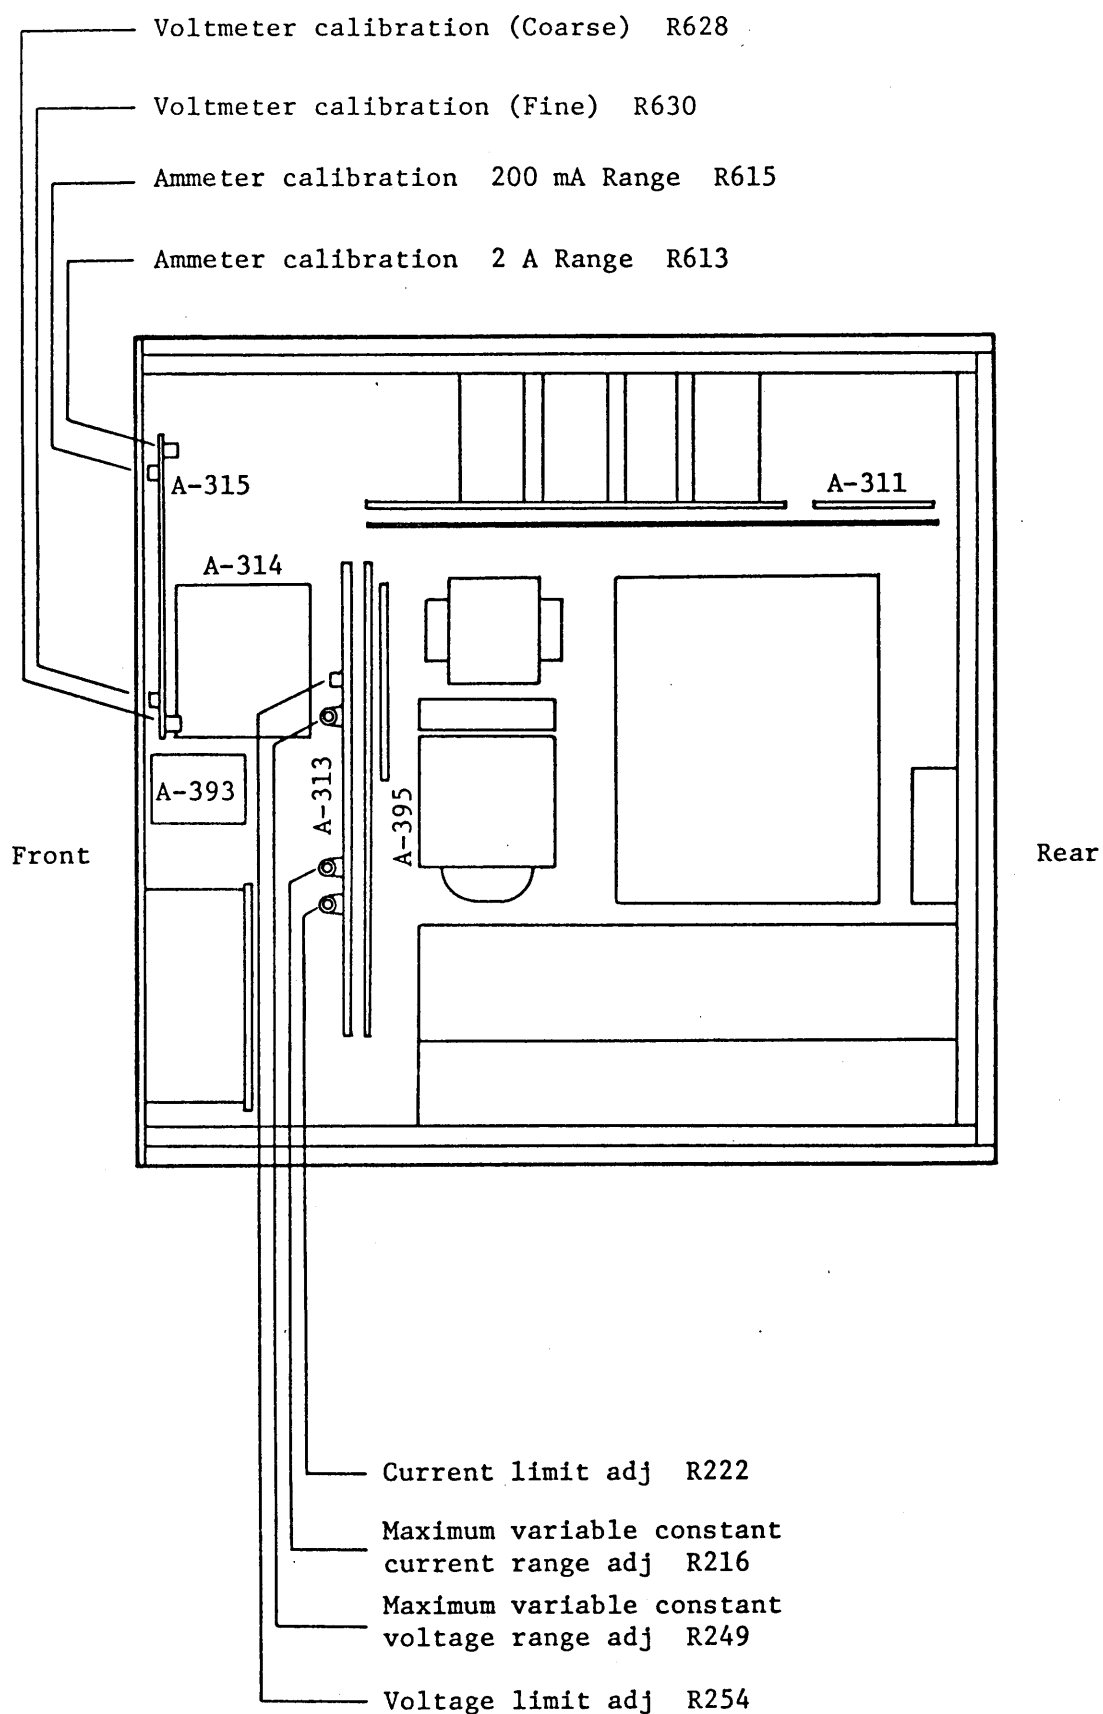

Figure 6-1 (Top view)
- o Connect an external voltmeter of an accuracy of 0.01% or better to the output terminals, set the output voltage at 1000.0 V, and calibrate the display of instrument voltmeter between 999.5 and 1000.5 with R628. (See Fig. 6-1)
- o Next, calibrate the display of instrument voltmeter 1000.0 with R630. (See Fig. 6-1)
Connect an external ammeter of an accuracy of 0.1% or better in the output circuit, set the output current at 190.0 mA, and calibrate the instrument ammeter with R615. (See Fig. 6-1)
Set the output current at 200.0 mA, and calibrate the instrument ammeter with R613. (See Fig. 6-1)